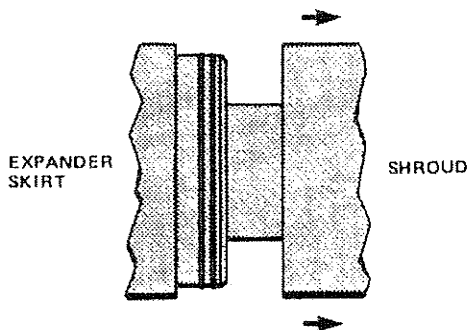

Figure 13 Remove Vacuum Shroud
4. Remove the vacuum shroud from the skirt of the refrigerator. The shroud is held only by the friction of the double O-ring seal. See Figure 13.